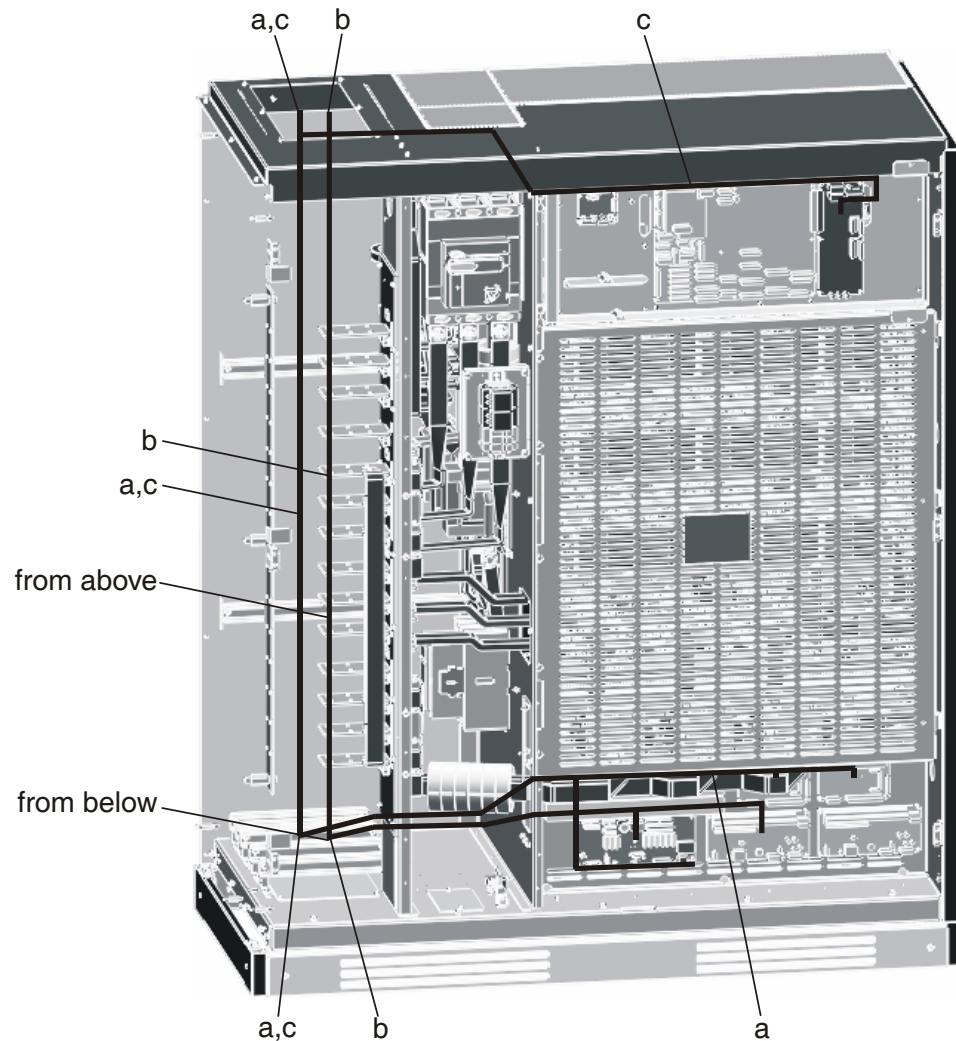

Fig. 6-14 Cable routes for the control and communications cables, AC 300 – 500 kVA, illustrated on the AC 300 kVA
The cable routing to these circuit boards is the same as that for the power cables, i.e. via the floor panel (cable entry from below) or via the cable entry panel in the roof (cable entry from above) in the left-hand part of the cabinet (cable compartment). The possible cable routes are shown in Fig. 6-14 and described in the sections following it.
The cable route for cable entry from below for the cables on the hinged bay (A) is denoted by (c) in Fig. 6-14. The cables should be led upwards into the cable compartment under the roof. The two permanently-mounted supporting rails are used for attachment. The cables should then be led forwards under the roof. The perforated grating should be used for attachment. The cables should then be pulled through the cutout in the rear of the hinged bay and into the upper cable channel. At the end of the channel the cables should be led forwards through the opening in the hinged bay and connected to the Parallel - Interface Board (A901).
The cable route for cable entry from above for the cables on the hinged bay (A) is also denoted by (c) in Fig. 6-14. After introduction through the roof, the cable is supported and then attached to the roof via the perforated grating and led forward. The remaining route is identical to that of the cable entry described above.
The cable route for cable entry from below for cables on the permanently-mounted circuit board panel (B) is denoted by (a) and (b) in Fig. 6-14. The route denoted by (a) should be used for the more interference-prone communications cables. These include, for example, data exchange cables such as CAN or current bus. The less sensitive cables should be laid along the route denoted by (b). These cables include, for example, the digital inputs/outputs of the I/O boards. The main reason for having these two routes is to reduce mutual interference between the cables. Cables in these different categories should not be bundled together and not laid in parallel without spatial separation. After being introduced from below, the cables should be attached to a supporting rail for strain relief. In the remaining installation they should be pulled behind the terminating panel for the power cabling, through the opening in the central panel and up to the permanently-mounted circuit board panel (B). The communications cables (a) should be laid in the upper cable channel and the control cables (b) laid in the lower cable channel up to the associated circuit boards. So-called shield buses are located immediately behind the cable entry on the circuit board panel. All screens of the external communications cables should be connected to these screen buses.